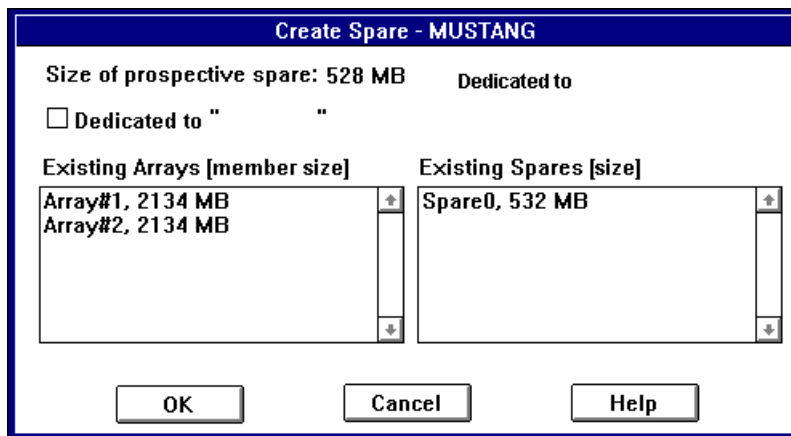

Figure 8-6. Create Spare Dialog Box
- 3 Click **Create Spare...** The Create Spare dialog box appears, as shown in Figure 8-6. A list of already-defined spares appears on the right. Names of existing arrays appear on the left only if the disk you selected is large enough to protect that array as a spare.